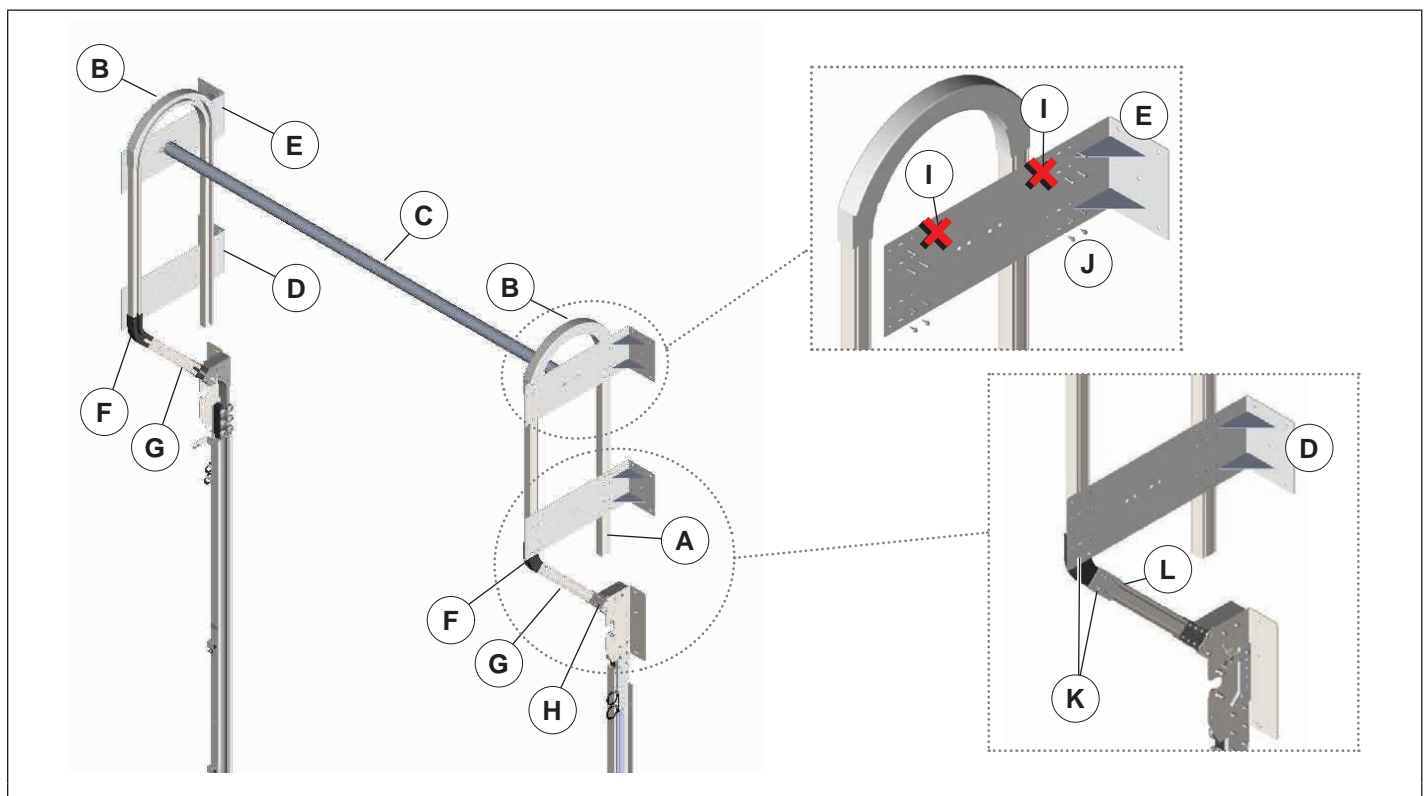

Figure 22
1. The proper radius (H) is already assembled to the lower track.
2. Locate the 2 shortest pieces of upper track (G). Slide end of upper track into the lower track splice connector. Pilot holes (.201Ø x 1 1/4in [5mm x 32mm] deep) (K) MUST be pre-drilled into lower track radius. Install 4 lag screws per location.
3. Locate the 2 45° radius pieces (F) and slide onto the first piece of upper track. Locate the 2 middle length pieces of upper track and slide into the 45° radius. Use self drill/tap screws (L) in aluminum track. Fasten 4 places in each location.
4. Plumb track in both directions and fasten to wall mount bracket (E) using self drill/tap screws (J). Attach 180° radius (B) to the upper track and fasten to the wall mount bracket. See dimension (B) of "**Figure 22**" on page 18 for top of 180° radius.
5. Locate the 2 longest pieces of upper track. Slide end of upper track (A) into the 180° radius, level, plumb and fasten to wall mount bracket using self drill/tap screws.
6. Place mounting bracket (D) in position against the radius and upper track and fasten using self drill/tap screws.
7. Attach spreader bar (C) between wrap back brackets.